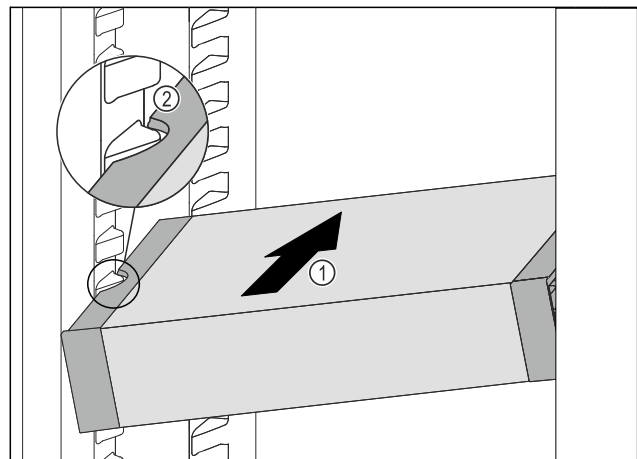

Fig. 102
- ▶ Insert the VarioSafe into the fridge section at an angle Fig. 102 (1) until the recesses in the side Fig. 102 (2) of the VarioSafe are at the level of the support rib in the fridge section.